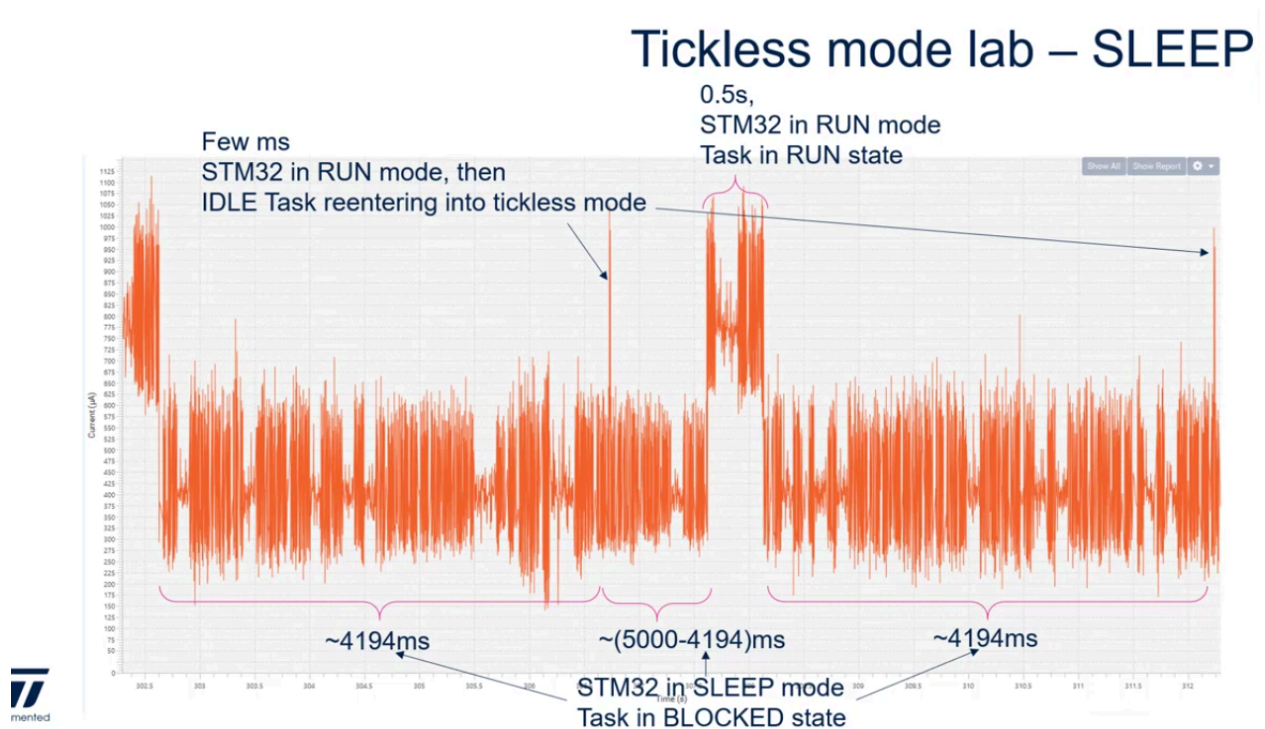

Figure 2: Snippet from ST's Lab video on freeRTOS tickless lab where task in RUN mode is dumb/spinning/delay function.
- Use **Sleep** for kernel in idle, have hardware timer in background wake just before systick overflow and compensate for it, enter sleep again (see Figure 2) (STMicroelectronics, 2021)
Figure 2 shows a single task that busy waits for 500ms and uses a low power timer to account for SysTick overruns. Of course, **standby** mode has the same implications, an MCU reset is needed.